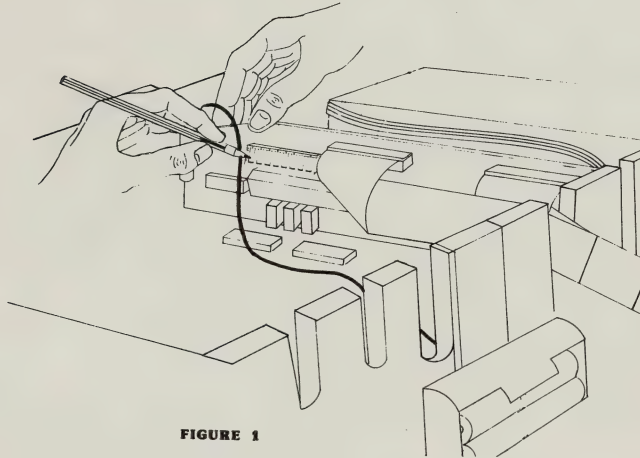

FIGURE 1
- E. PLUG THE INTERFACE CARD INTO APPLE PERIPHERAL SLOT NUMBER THREE. (See Fig. 1, next page) This is the slot where LabSoft "expects" to find this card. If you already have a card in that slot and it can't be relocated, see the references to LabSoft's & SLOT# command in this
manual and the LabSoft Reference Manual. FOLD THE CABLES AS SHOWN IN FIGURE 1 AND RUN THEM BESIDE THE CARD AND OUT THROUGH THE VERTICAL OPENING AT THE BACK OF THE APPLE. If you have a card in Slot #4, it would be easier to temporarily remove it before installing the ISAAC/Apple Interface Card.